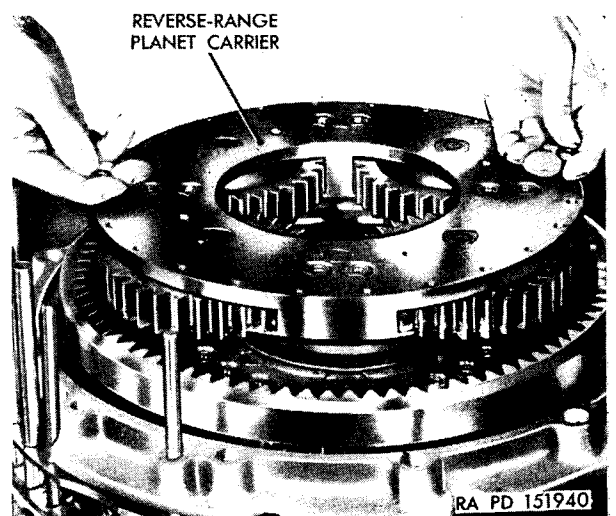

Figure 201. Removing or installing reverse-range planet carrier.
- (3) Install two bolts in the reverse-range planet carrier. Take hold of the bolts and lift out the planet carrier (fig. 201).